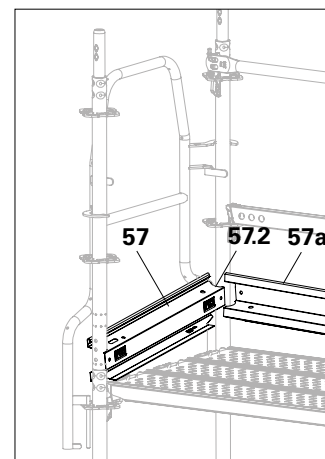

Fig. A3.07
3. Insert Toe Board UPY (**57**) from the outside-left first of all. The larger tube cut-out (**57.3**) is on the left. (Fig. A3.07)